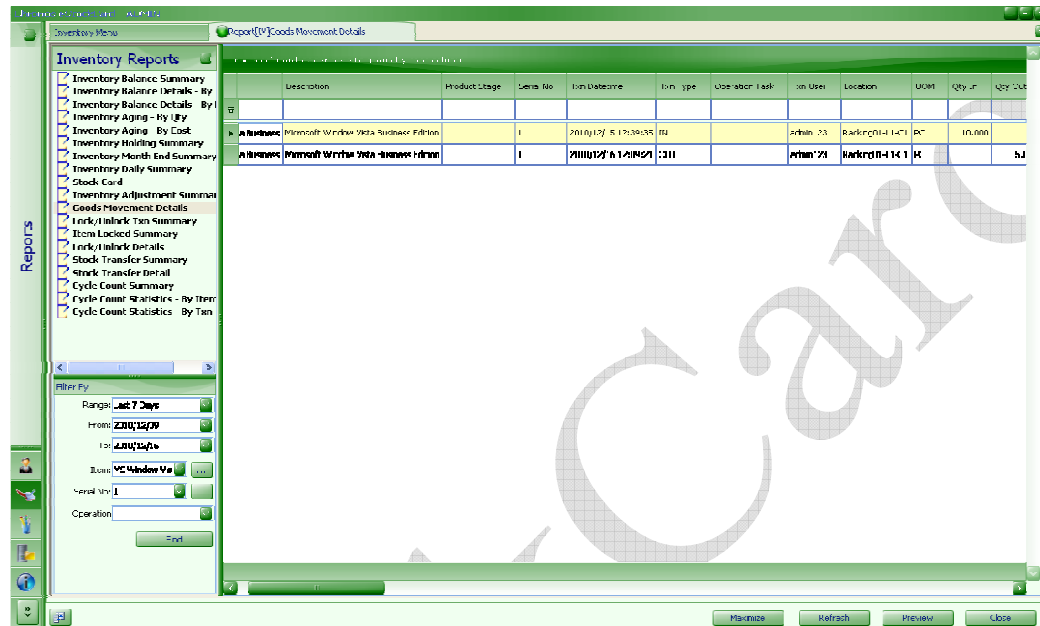

Fig. 48
Step 2 You can filter by item code = MS Windows Vista Business and serial number = 1 and click “find” (Fig. 48)